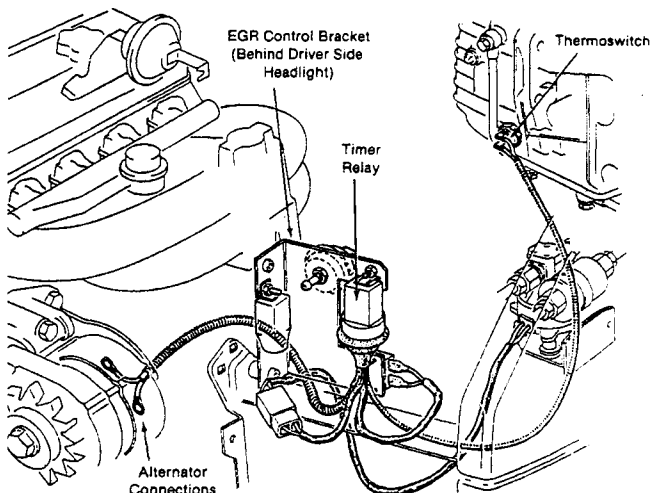

Figure 1
2. The timer-relay allows the pump to operate for a minimum cycle of 3 minutes after starting. The timer-relay is mounted on the EGR Control bracket behind the driver side headlight. (See Figure 1.)